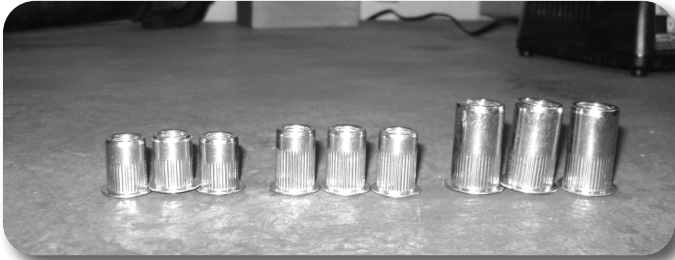
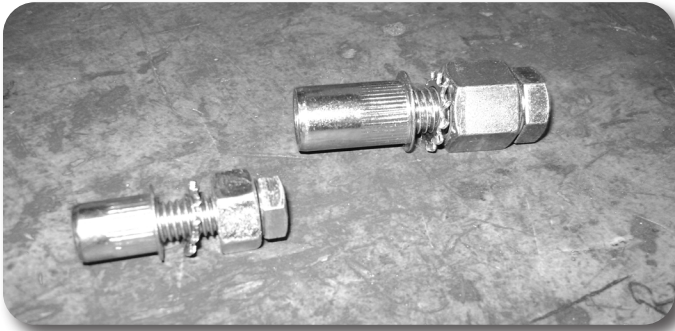

Figure 20A
Figure 20B
33. Locate all of the provided rivet nuts and bump stop bolt pack #593. There are 3 each of 3 different rivet nuts sizes are provided, 1/2" (large) and two 3/8" with one set longer than the other. Sort the rivet nuts by size. **Figure 20A** Set up the rivet nut installation tools. The 1/2" tool consists of a 1/2" x 2" bolt, 9/16" high nut and 1/2" star washer. The 3/8" tool consists of a 3/8" x 1-1/2" bolt, 7/16" hex nut and 3/8" star washer. Set up the tools as shown in **Figure 20B**.